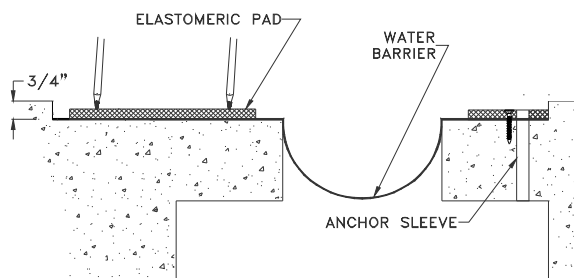

Figure 10
**STEP 20.** If pad anchors are provided, mark the locations for the fastener holes on the pad (see Figure 10). Two (2) rows of fasteners are used, aligned a nominal 1 1/2" from their respective edge of the pad. The rows are staggered, and the fastener hole spacing is a nominal 20" o.c. with an fastener in each row spaced a maximum of 3" from each end of the pad.